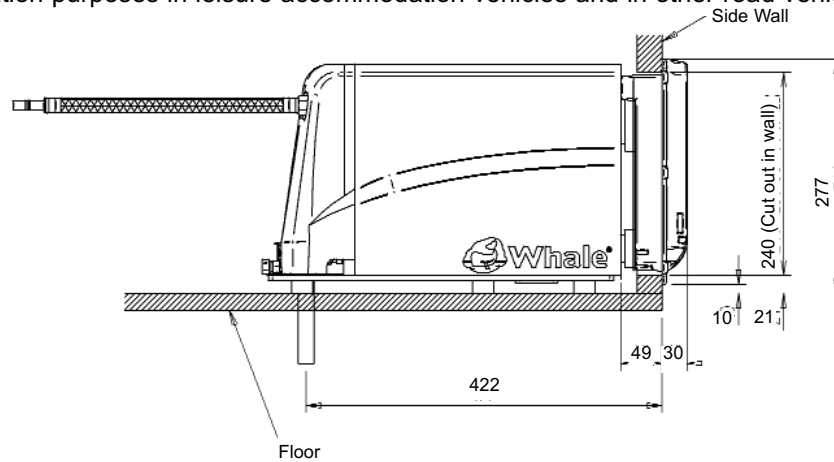

Fig. 2
- Fig. 2 Dimensions – side view